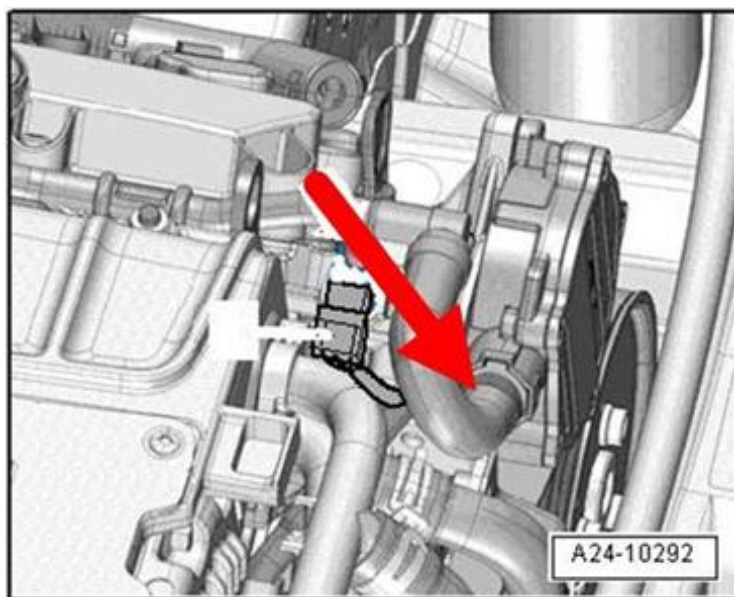

Figure 7. Vacuum hose (arrow)
6. Disconnect the vacuum hose (Figure 7, arrow) from the vacuum pump and lay it aside.